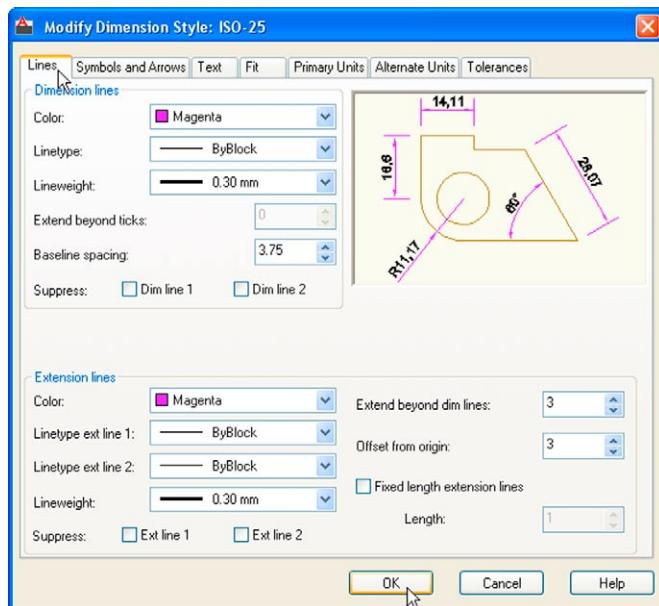

Fig. 4.11 The setting for **Lines** in the **Modify Dimensions Style** dialog
3. The **Modify Dimension Style** dialog appears (Fig. 4.11). This dialog shows a number of tabs at the top of the dialog. Click the **Lines** tab and make settings as shown in Fig. 4.11. Then click the **OK** button of that dialog.